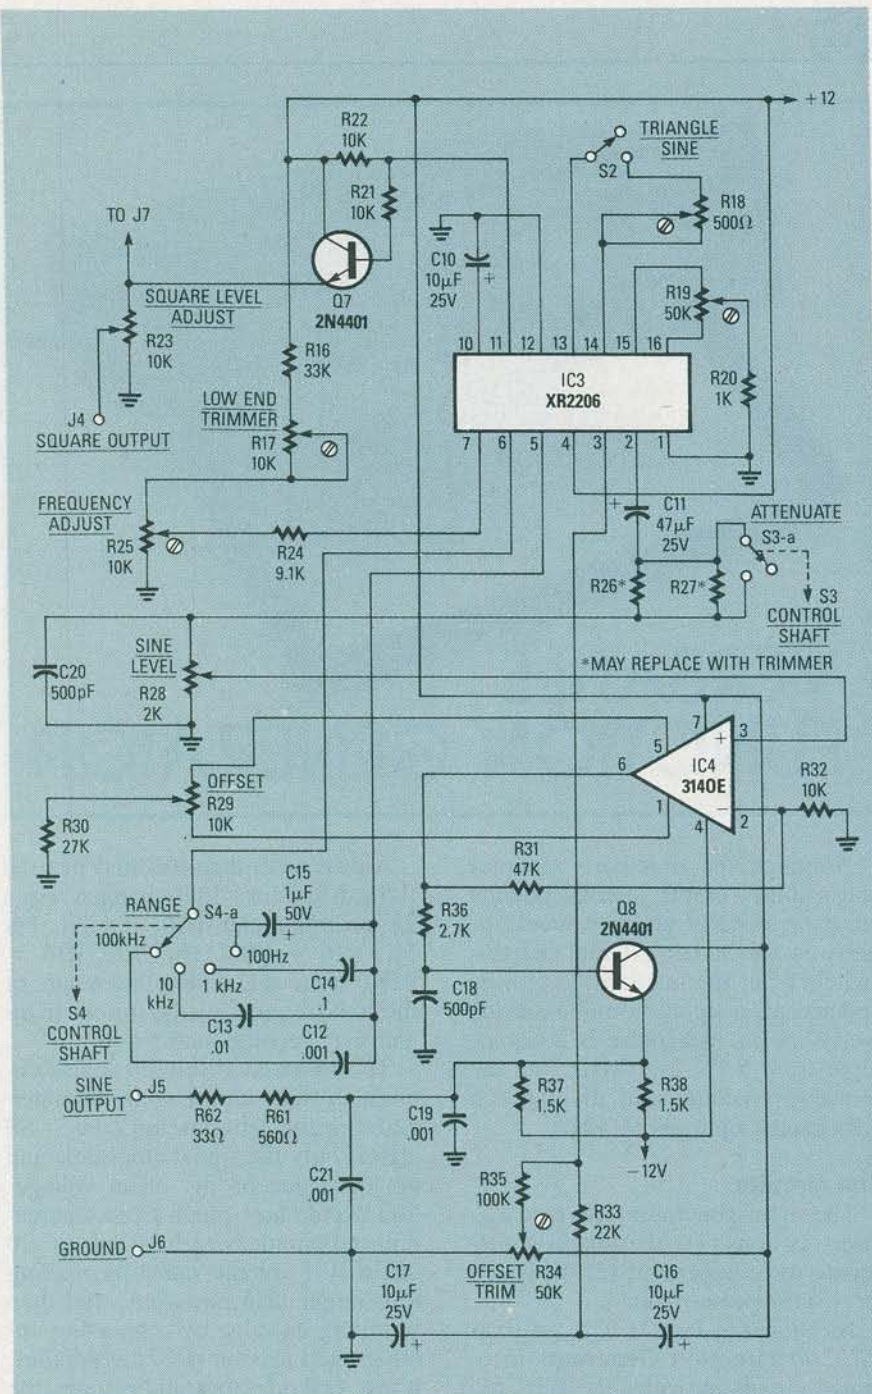

FIG. 1—ALL THE BASIC SIGNALS are provided by IC1, an Exar Function Generator integrated circuit. Switch S2 selects either a triangle- or sine-wave output.
The sweep can be started at the same instant as the X-Y chart recorder by connecting the common lead to ground from resistors R31, R32, and R33 through a normally closed (NC) pushbutton switch shown on schematic Fig. 1. Connect a closed-circuit miniature phone jack, a plug, and cable to the pushbutton switch. Press the pushbutton and hold it as soon as the retrace is complete, and it will stop the sweep until you are ready to start recording.
As shown in Fig. 1, IC3, an Exar XR2206 Function Generator integrated circuit, provides the sine, triangle, and square waves. Normally, IC3's frequency adjustment is a 0.2–2-megohm variable resistor connected from pin 7 to ground, but that kind of adjustment often proves to be critical because only conventional single-turn potentiometers are normally available in such large values. In our prototype, however, the XR2206 is used as a voltage-controlled oscillator, and frequency-adjustment control R25 is a 10K 10-turn potentiometer. Adjusting the output frequency to within one cycle out of a thousand takes only a modest degree of dexterity.